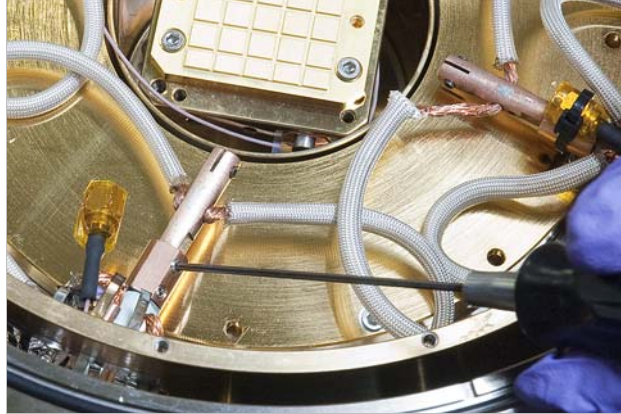

FIGURE 3-22 Loosen the probe arm set screws
1. Using the 1.5 mm hex driver, loosen the set screws on the probe arm so that the probe mount can rotate freely (FIGURE 3-22).
5. Using the 1.5 mm hex driver, loosen both M3 probe arm set screws two to three turns and slide the dowel out of the probe arm (FIGURE 3-22).
4. Using the 1.5 mm hex driver, loosen the set screws on the probe arm and slide the dowel of the microwave probe into the probe arm (FIGURE 3-22).